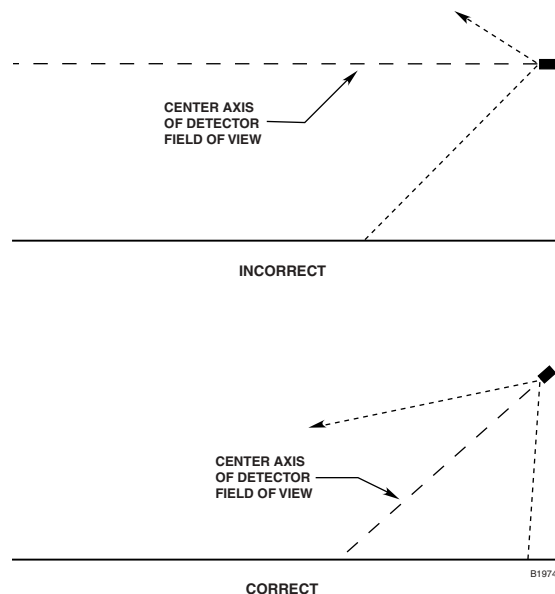

Figure 1—Detector Orientation Relative to Horizon
- The detector should be aimed downward at least 10 to 20 degrees to allow lens openings to drain. See Figure 1. **The detector should be positioned so that its field of view does not cover areas outside the hazardous area.** This will minimize the possibility of false alarms caused by activities outside the area requiring protection.
(See Figure 1 for Correct Detector Orientation.)